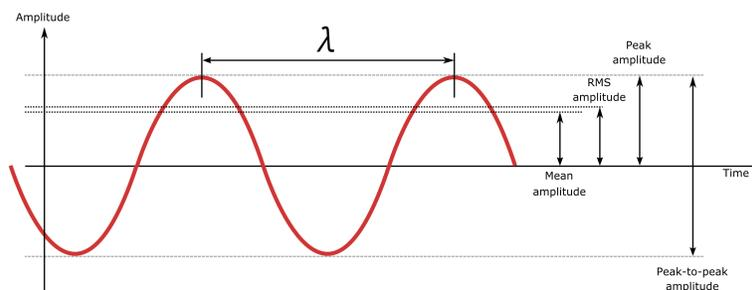

Figure 1: Definitions of various wave parameters
- The Ampl parameter sets the peak-to-peak amplitude, not the peak amplitude. See Figure 1.